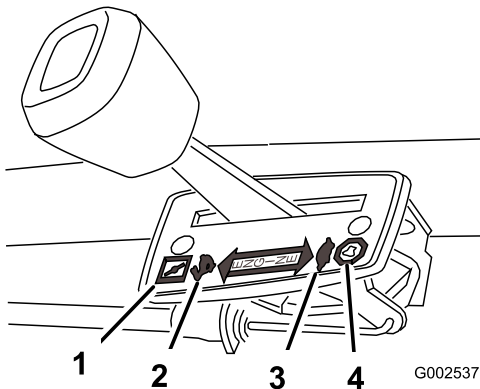

Figure 8
The throttle settings are shown in (Figure 8).
3. Move the throttle control lever to the Choke position (Figure 8).
4. Move the ground speed control lever to the Neutral (N) position.